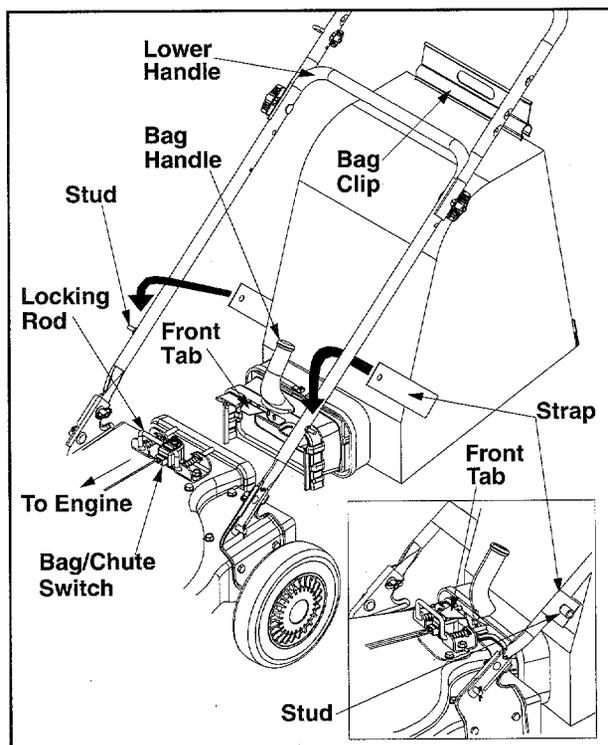

Figure 4
See Figure 4
- Remove bag from over the rim of the discharge opening. Refer to Figure 4.